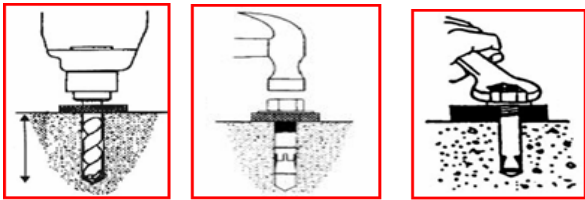

Fig. 22
- Fix the anchor bolts with a percussion electric drill (percussion drill bit is of 18), drill to 120mm hole and clean the hole. (**Fig. 22**)